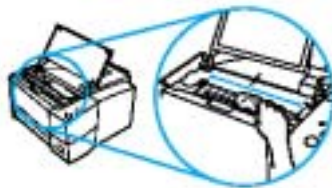

Figure 44. Clean Toner Cavity
3. With a dry, lint-free cloth, wipe any residue from the paper path area and the toner cartridge cavity as shown in Figure 44.